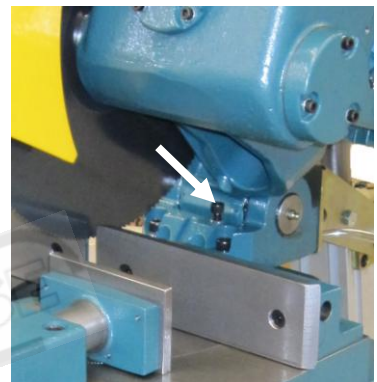

Figure 20. Depth Adjustment Screw
- xi) It is also possible to limit the cut depth while END CUT DETECT is on by unscrewing the depth adjustment screw, shown in Figure 20, while tightening the screw increases the cut depth.